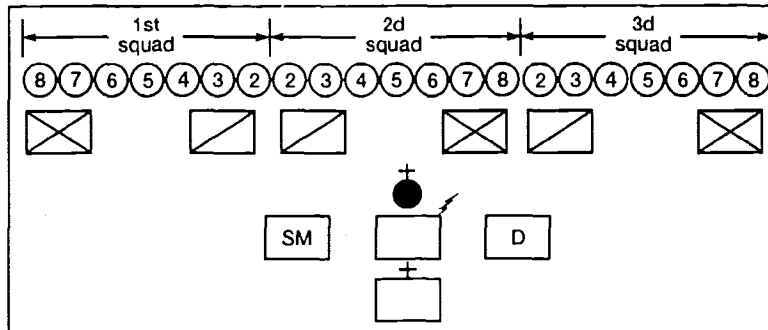

Figure 191-379-5400-1. Platoon Line
1. Form the platoon in a platoon line (figure 191-379-5400-1).